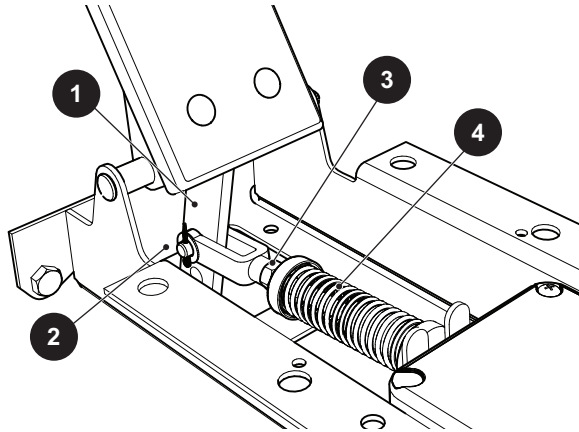

Fig. 7 Accelerator Pedal Arm Adjustment
Confirm the accelerator pedal arm (1) contacts the accelerator pedal bracket (2) when in the released position (Ref. Fig. 7). If there is no contact, loosen the jam nut (3) and rotate the rod (4) until contact is made.